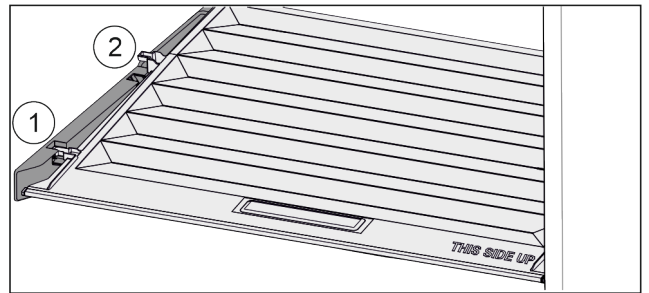

Fig. 39
- ▶ Pull the lid up at the front to the opening in the retaining parts Fig. 39 (1).
- ▶ Lift from the back and pull it up and out Fig. 39 (2).